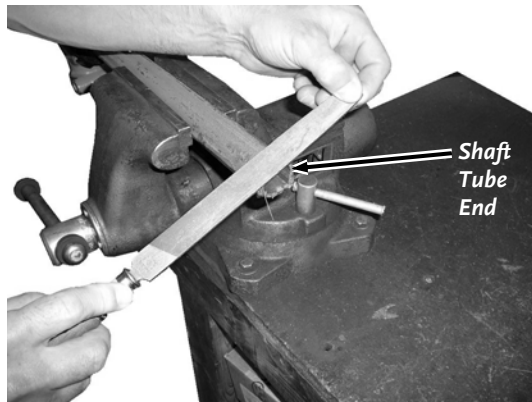

Figure 20
5. File or sand any burrs from the Shaft ends (**Figure 20**).